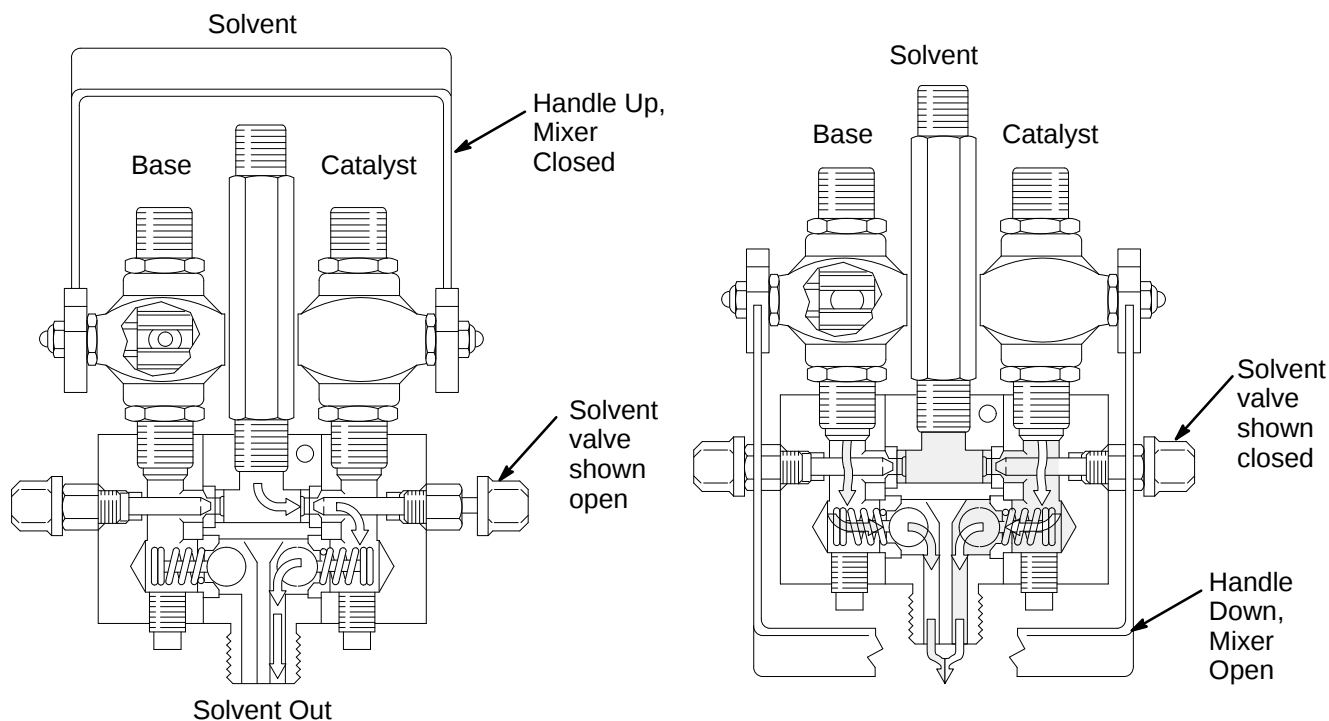

Fig. 7
NOTE: To open the mixer manifold (120), put in the handle in the down position. To close the mixer manifold, put in the handle in the up position. See Fig. 7.
NOTE: To open the mixer manifold (120), put the handle in the down position. To close the mixer manifold, put the handle in the up position. See Fig. 7 on page 16.